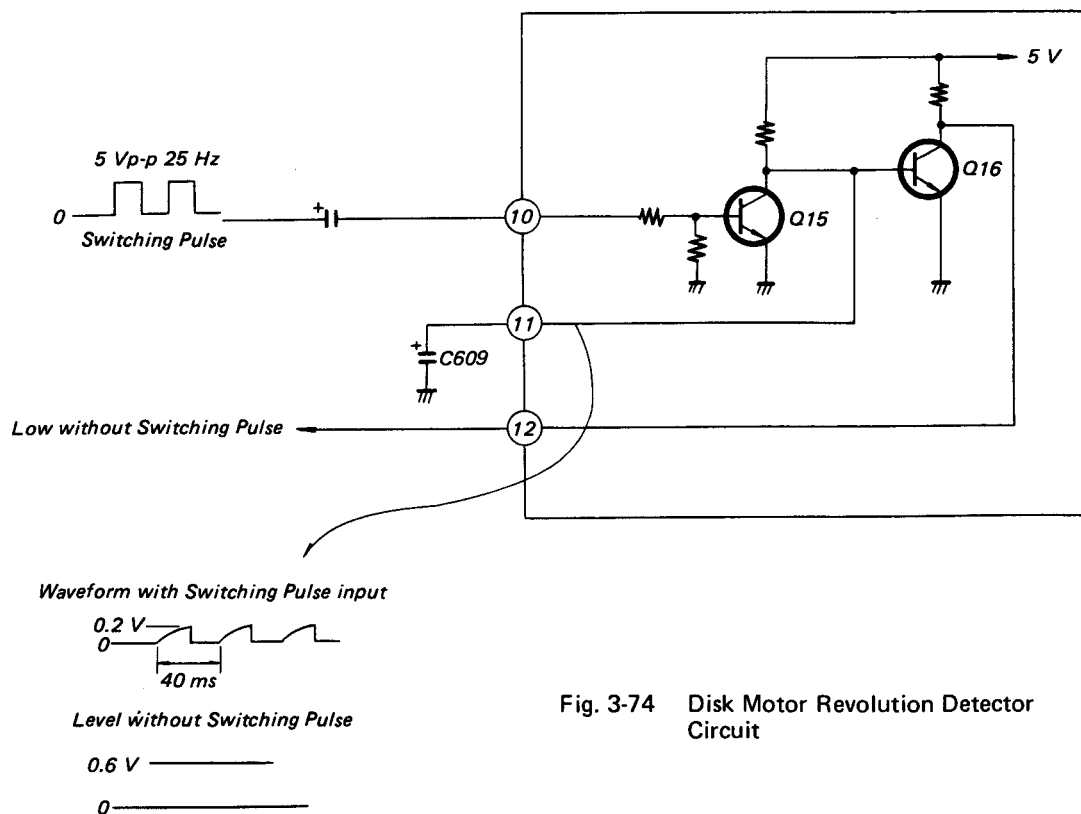

Fig. 3-74 Disk Motor Revolution Detector Circuit
(3) Disk motor revolution detector: This detects the revolution of the disk motor by the presence or absence of the switching pulse as illustrated in Fig. 3-74. If the switching pulse is present, Q16 is turned off. If it becomes absent, Q15 is turned off, which turns Q16 on. This makes the output at pin 12 go to the low level.